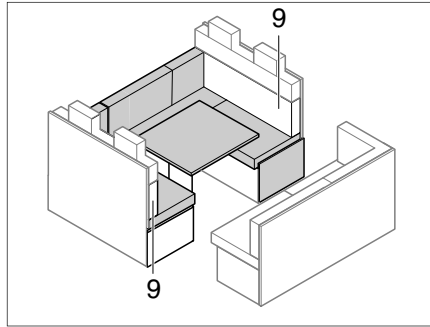

Fig. 202 Prior to conversion
- Remove back padding (Fig. 202,9) and put to one side.